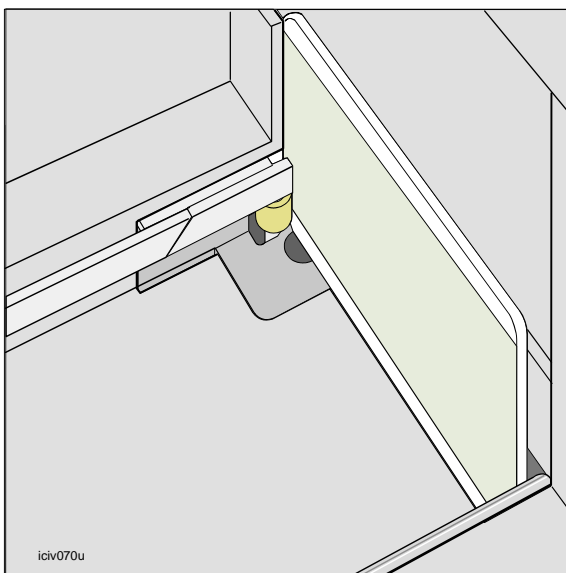

Figure 7-2: Place the cleaning card between the card input guide rollers
- 8 Place the cleaning card in the card input tray as shown in Figure 7-2. Insert the end of the card into the pick rollers.